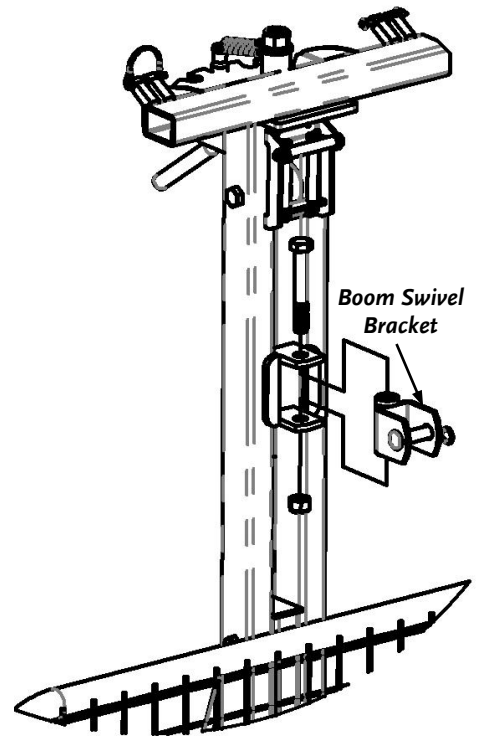

Figure 29
1. Remove the Boom Swivel Bracket (**Figure 29**) using a 24mm Socket and Adjustable Wrench.